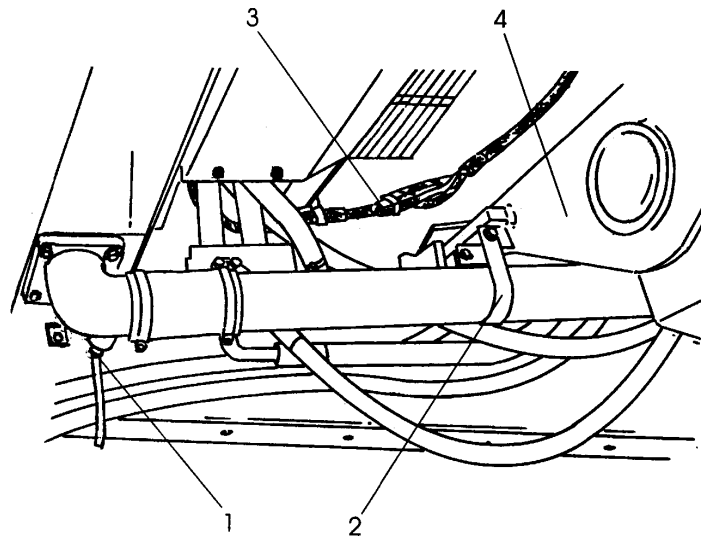

Fig. 4.4. Disassembly Points.
7. Open valve (1, Fig. 4.4) and drain coolant from cooling system.
8. Remove bracket (2, Fig. 4.4) of suction tube. Loosen clamp and remove the rubber link (2, Fig. 4.5) from the water pump.